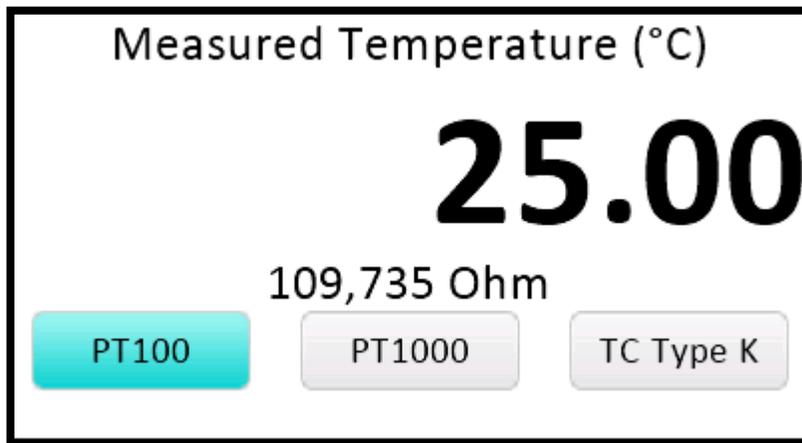

Figure 16. MAXREFDES183# temperature measurement options.
20. Connect a sensor as instructed and click **OK**. The next screen (**Figure 16**) will display the temperature based on the selected temperature-sensor type and measured resistance (PTxxx)/voltage (TC). To change the temperature-sensor type, please click the appropriate button.